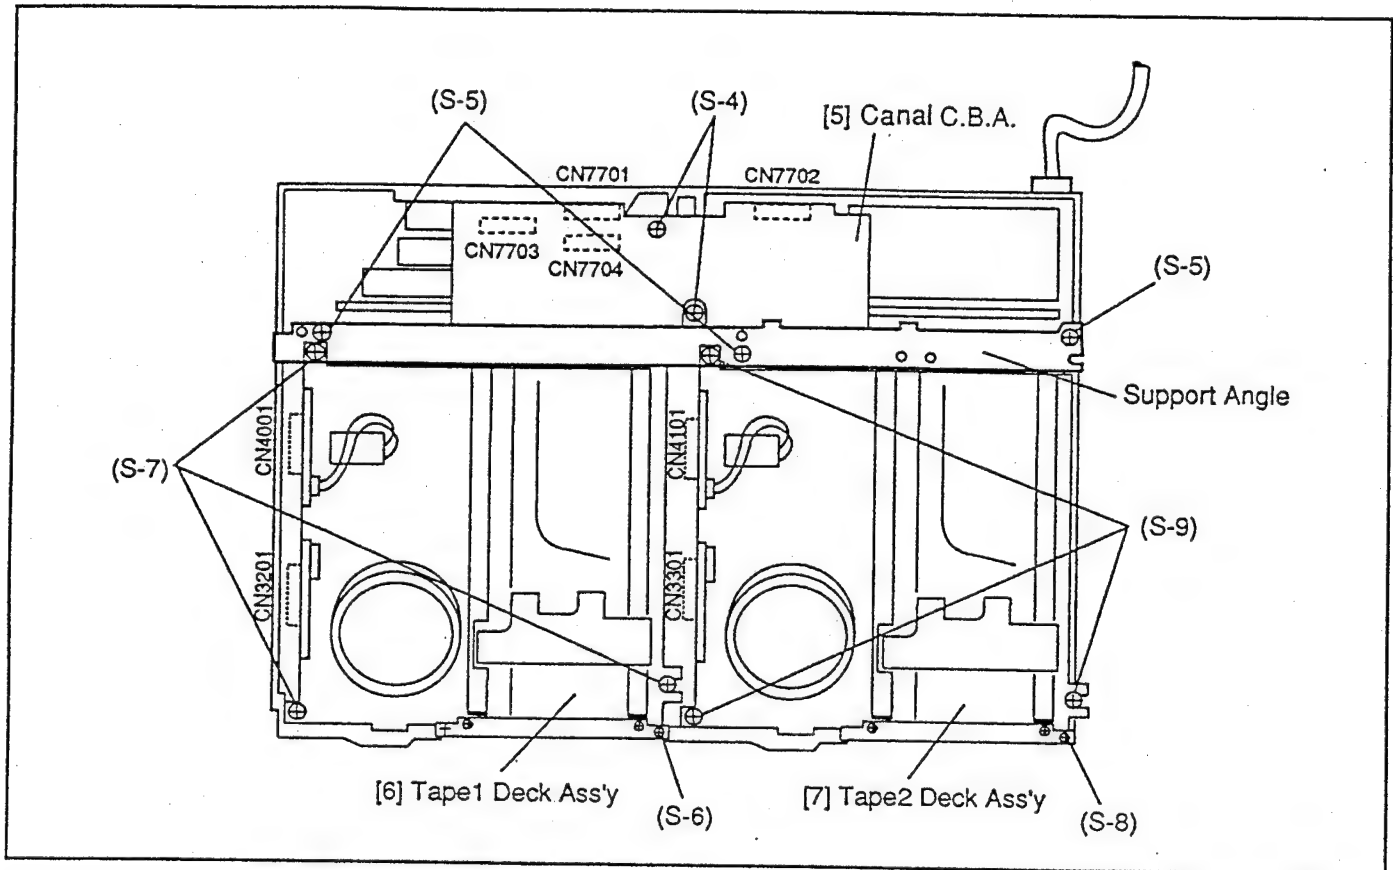

Fig. 5
5. Canal C.B.A. (Fig. 5)
6. Tape1 Deck Ass'y Removal. (Fig. 5)
7. Tape2 Deck Ass'y Removal. (Fig. 5)